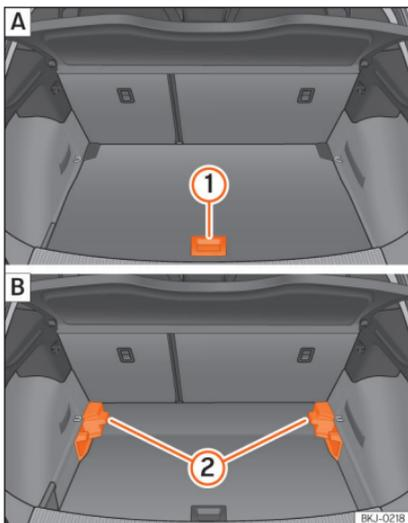

Fig. 128 Variable luggage compartment floor: **A** raised position; **B** lowered position.
- To move from the low position to the high position, lift the floor using the handle »» Fig. 128 ①, and pull it back until the front of the floor has fully passed the supports ②.
- Move the floor forward over the supports as far as the rear seat backrest and then lower the floor with the handle ①.
- To move from the high position to the low position, lift the floor using the handle »» Fig. 128 ①, and pull it back until the front of the floor has fully passed the supports ②.
- Now let the front part fall to the floor and slide the floor forwards as far as the rear seat backrest; lower the floor at the same time with the handle ①.
- Lift the variable floor in the high position using handle »» Fig. 128 ①, pull it up and push it towards the backrest of the rear seats until it folds along the hinge line and the movable part of the floor is resting on itself.